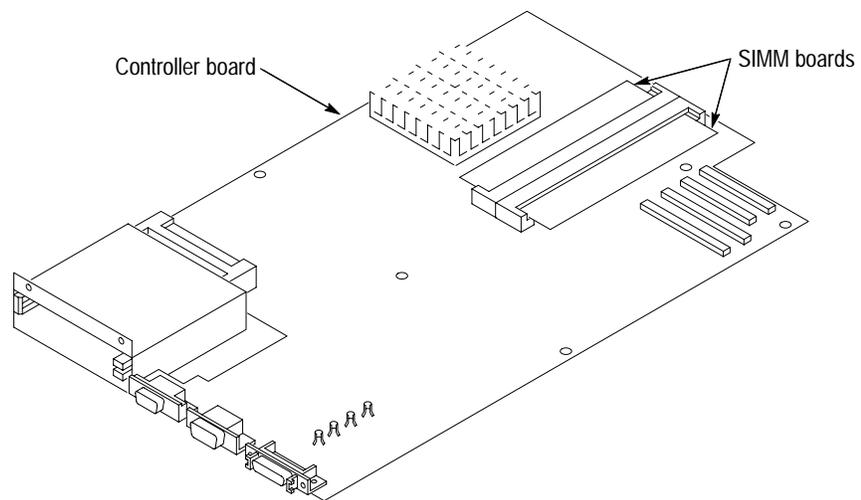

Figure 8: SIMM boards removal
The RAM SIMMs are located on the Controller board of the subassembly that you just removed. (See Figure 8.) Removal and installation of the SIMM boards do not require the use of tools.
1. Press outward on the clips holding each SIMM board to the Controller board and lift off the SIMM board. Remove both boards. (See Figure 8.)